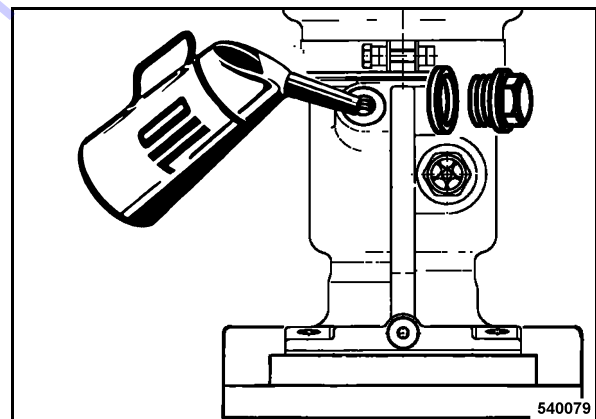

Fig. 76
- Clean the filler plug (Fig. 76) and unscrew it.